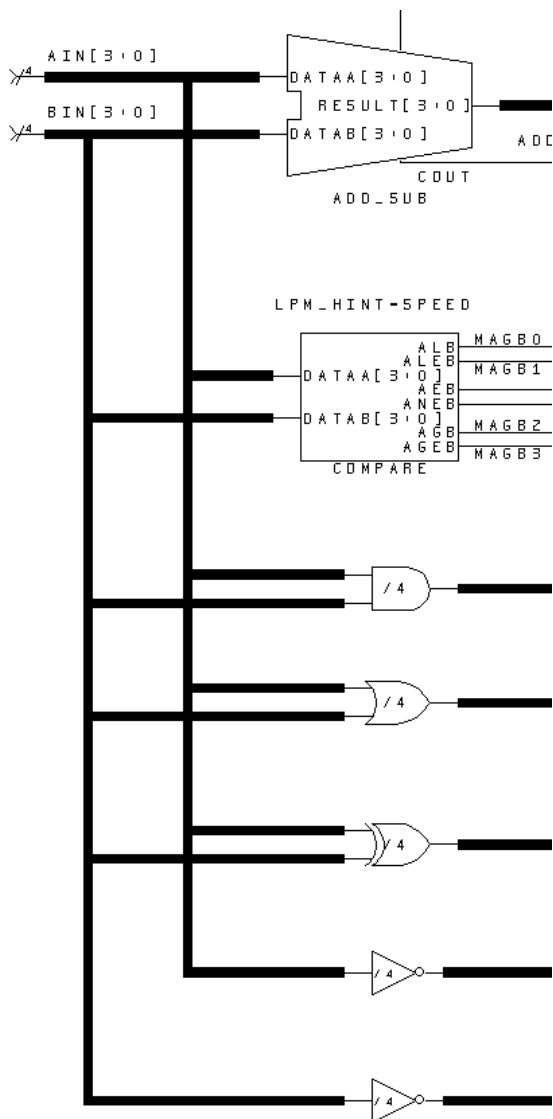

Figure 3-55 Connecting the A and B input buses
- => Repeat these steps for each of the remaining components: comparator, AND gate, OR gate, and XOR gate. The inverters have only one input each. Therefore, one of the inverters should have its input connected to the operand A bus, and the other should have its input connected to the operand B bus. Look at Figure 3-55 for a zoomed-in view of what the A and B input buses should look like after making the connections. If you made the A and B input buses too long, so that now they have pieces beyond the inputs to the inverters, click on the overhanging piece. Press “d” on the keyboard, or choose *Delete* from the *Edit* pull-down menu, to delete these unused pieces. Repeat this step for the other bus if necessary.